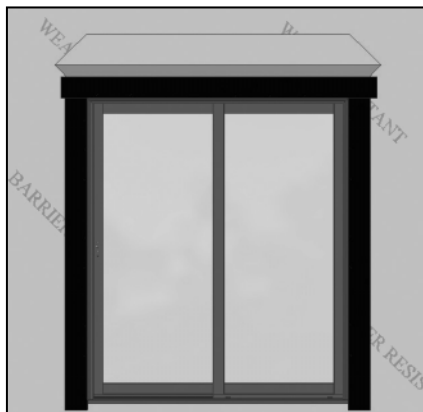

FIG. 21
- C) Cut and apply head flashing. The head flashing should run slightly past the edge of the side flashing as shown. (Fig. 21)